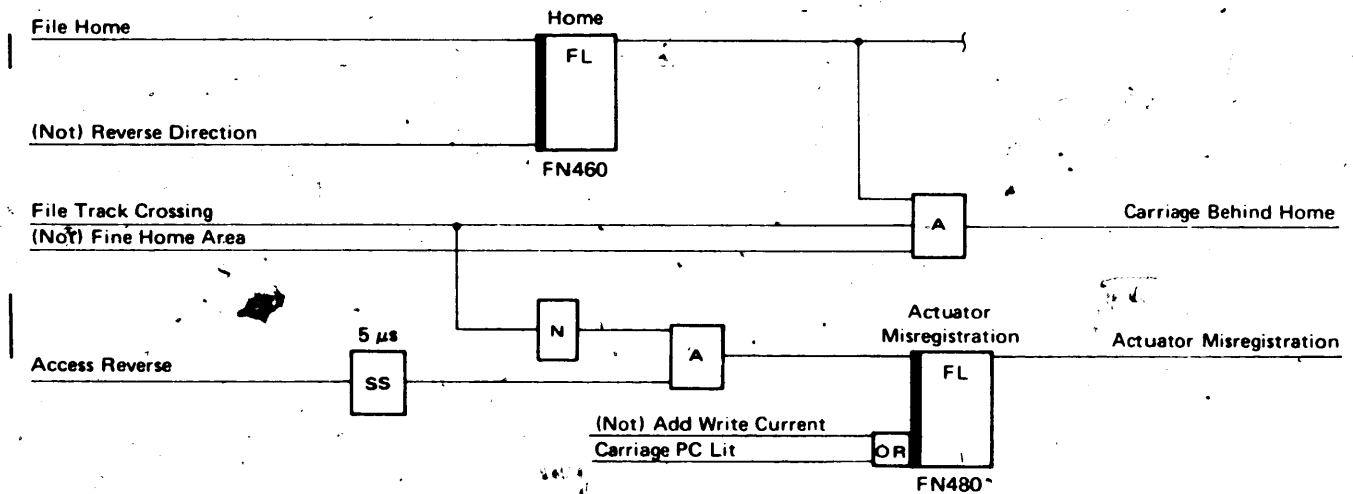

Figure 1-48. Head Movement Error Logic [07509A]
- Figure 1-48 Fr. E02 shows the head movement error logic.